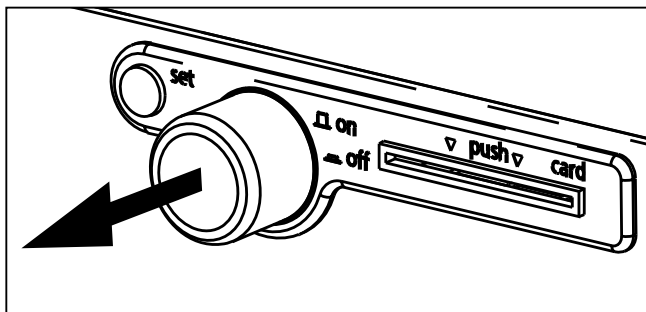

Fig. 19
- ▶ Switching on: press the main switch so that it comes out of the appliance (Fig. 19).
1. Switch on appliance by pressing the main switch (main switch comes out of appliance, see Fig. 19).
2. Switch on appliance by pressing the push-turn control on the operating panel so that it comes out of the appliance (Fig. 19).